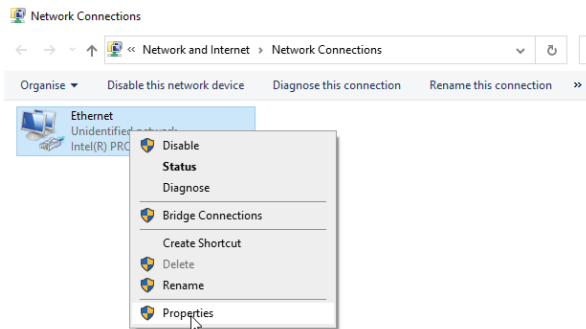

Fig.2
4.3. Right click on the network connection and select „Properties” (Fig.2).